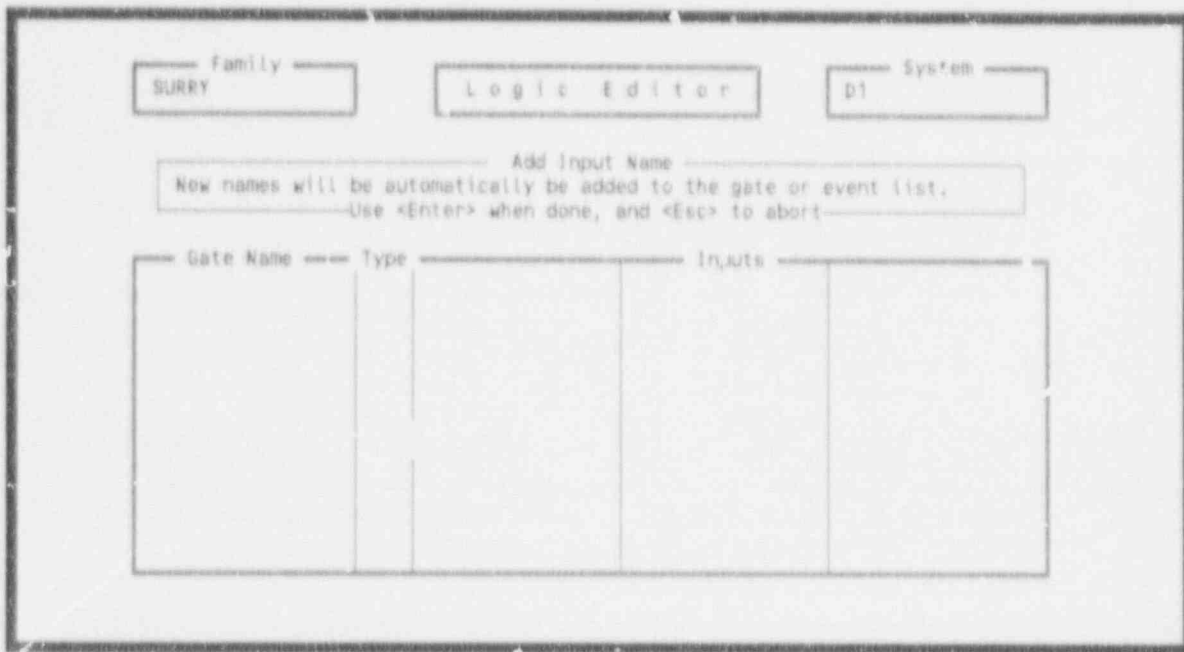

Figure 106. Add input to logic editor.
6.5.2.2 Add. This option allows you to enter a new gate name or input into the selected system or subsystem. To invoke this option, enter an <A> while positioned in the gate name column or at the desired input row or column. When you invoke this option, Figure 106 will be displayed.